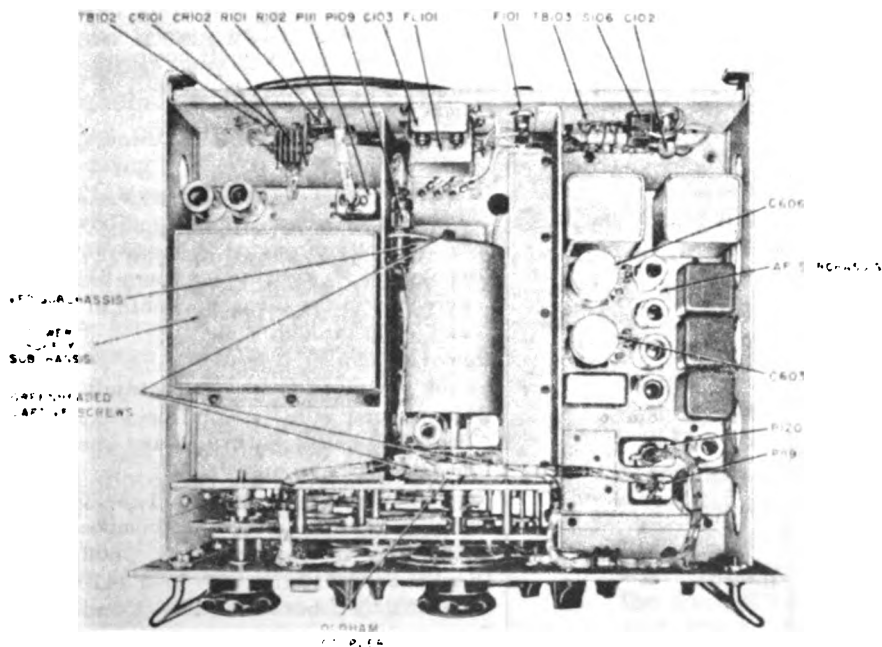

Figure 37. Radio Receiver R-390A/URR, bottom view.
Disconnect P119 (fig. 37) from J619, and connect the TS-352(*)/U between J619-5 and chassis ground.
- (1) Short circuits in the tube heater and/or oven circuits usually blow the AC 3 AMP fuse on the rear panel on the receiver. Disconnect all power/plugs except P111 (fig. 37) from the power-supply subchassis and apply ac power to the receiver. Turn the FUNCTION switch to STAND BY. If tubes V801 and V802 in the power-supply subchassis light and fuse F101 does not blow, the trouble is in one of the other subchassis. If the fuse blows, the trouble is in the power-supply subchassis or main-frame wiring. Follow the procedure in (2) below for locating the tube filament or oven short.
- (2) Remove all tubes and the power plug from the subchassis to be